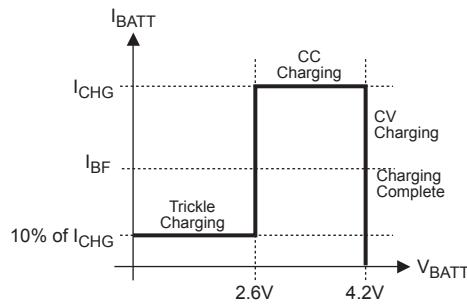

Figure 2—MP26057 Typical Charging Profile
Figure 2 below shows the typical charging profile for the MP26057. For a fully depleted battery with a terminal voltage lower than 2.6V, the MP26057 will start with the trickle charge (preconditioning) at 10% of the full charge current based on the value of  $R_{PGM}$ . If the charger stays in the trickle mode longer than 32768 cycles, RED/GRN pins become flashing indicating battery fault. After the battery voltage reaches 2.6V, the charger begins charging at the constant current of the programmed value ( $I_{CHG}$ ). This is referred to as Constant Current (CC) mode. Once the battery voltage reaches 4.2V, the charger will operate in the constant voltage (CV) mode until the battery is fully charged. The charge current drops during CV mode, and the battery full indication is set when the charge current reduced to the preset value based on  $R_{IBF}$ , and the charge process terminated. Recharge will start after the battery voltage is for some reason reduced to 4.0V. After 262144 cycles of continuous charging, if the battery is still not reaching IBF condition, the on-chip timer will terminate the charger to prevent charging the dead battery for excessive long time and the fault condition will be flagged by flashing the RED/GRN LEDs.